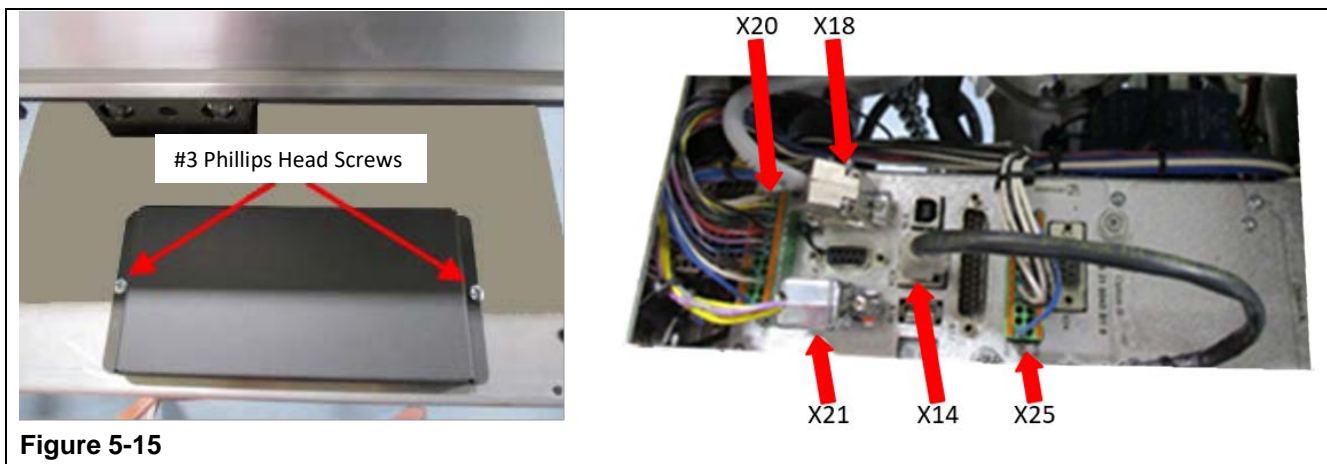

Figure 5-15
Step 4. In order to remove the old Drive from the Enclosure, remove the two #3 Phillips screws and then the cover from the top of the hoist's enclosure. (Refer to Figure 5-15)
- Step 16. Reinstall the cover on top of the hoist's enclosure. (Refer to Figure 5-15)